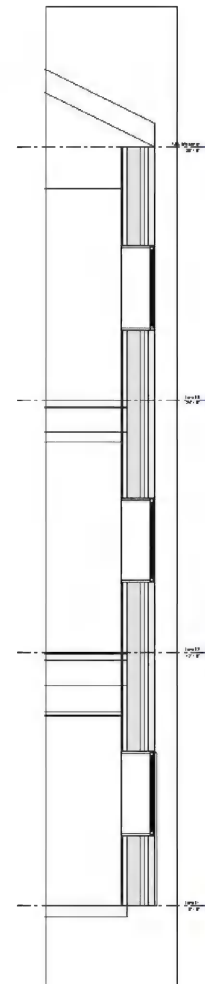

FIGURE 10-3.4 Revised Detail Level and view scale
*Notice the Level datum symbol size changed as well as the Detail Level (Figure 10-3.4).*